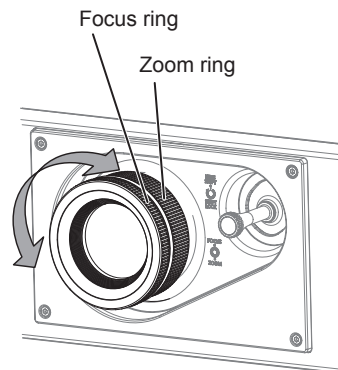

Fig. 2
5) Adjust the zoom and the focus. (Fig. 2)